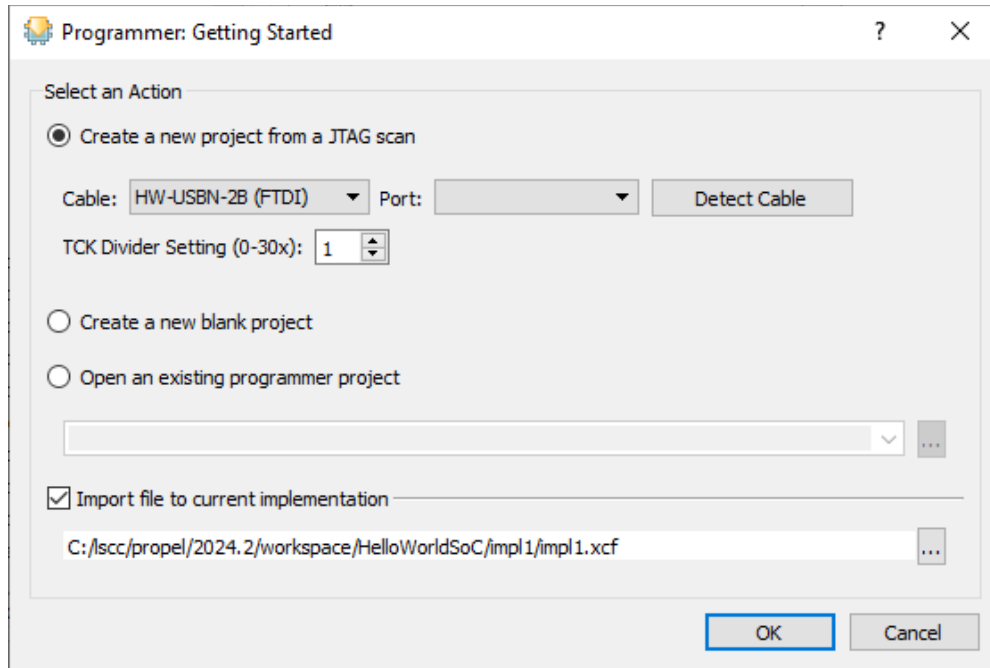

Figure 4.7. Programmer Getting Started Dialog
2. The **Programmer: Getting Started** dialog pops up (Figure 4.7). Click **OK**.